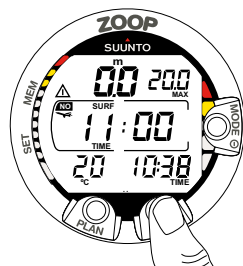

Fig. 3.28. Surface interval, no-flying time. Pressing TIME button twice will show no-flying time, indicated by an airplane symbol.
- the desaturation/no-flying time in hours and minutes is shown next to the airplane in the center window of the display (Fig. 3.28.).